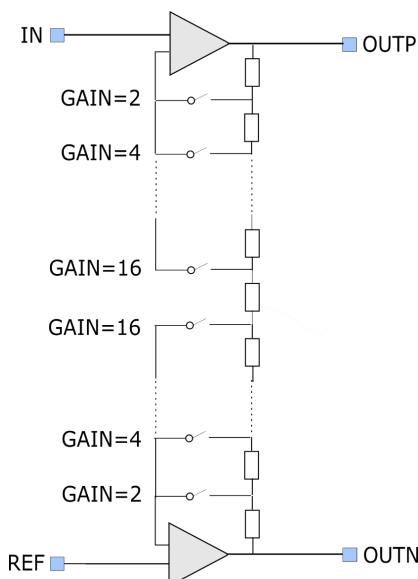

Figure 2: Channel with programmable gain (simplified).
A simplified view of one channel is shown in Figure 2. The channel consists of two operational amplifiers (OA) in a balanced non-inverting amplifier configuration with programmable gain. The input signal is applied to IN and a constant reference voltage is applied to REF. The differential output signal can be measured between OUTP and OUTN. The switchable capacitors for video-channel bandwidth reduction are not shown in the figure below.